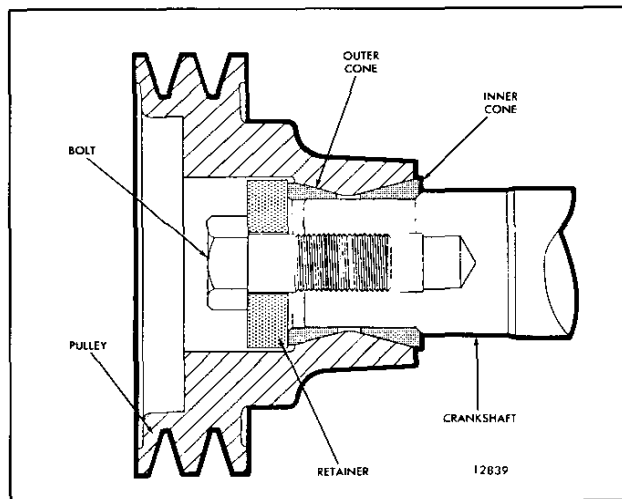

Fig. 2 - Cone Mounted Pulley
2. Slide the inner cone (Fig. 2), if used, on the crankshaft.